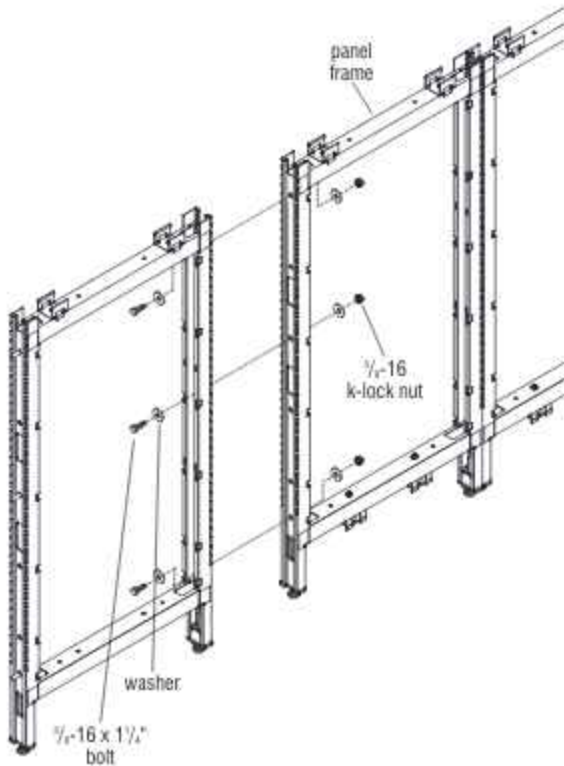

Figure 11 - 2-Way 180°, Panel Frames - In-Line
2. Tighten all hardware, then level the panels, twisting the height-adjustable glides in or out (Figures 11 & 12).